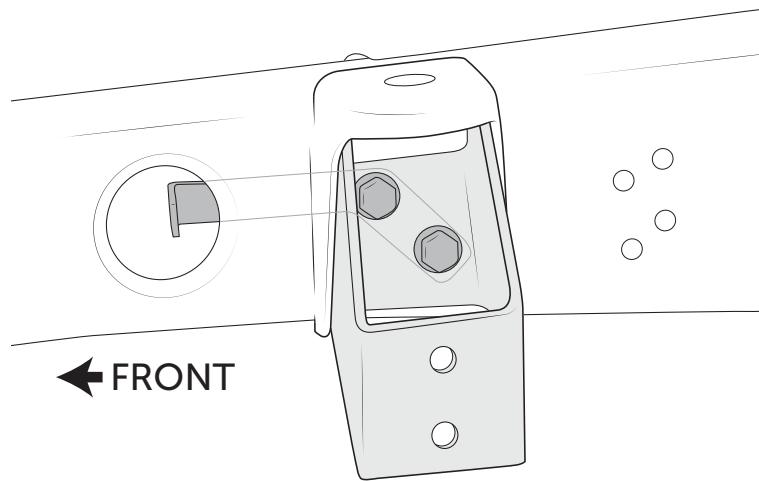

Figure 10: LH side shown
- D. Install LH and RH brackets using 2 M8 Flag Nuts and 4 M8 Hex Bolts and the factory bed mount bolt (fig. 10).